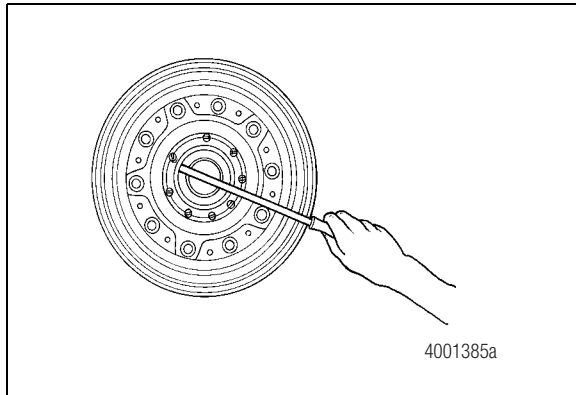

Figure 3.14
5. If necessary, use a long screwdriver to remove the oil seal from the hub. Discard the oil seal. Figure 3.14.